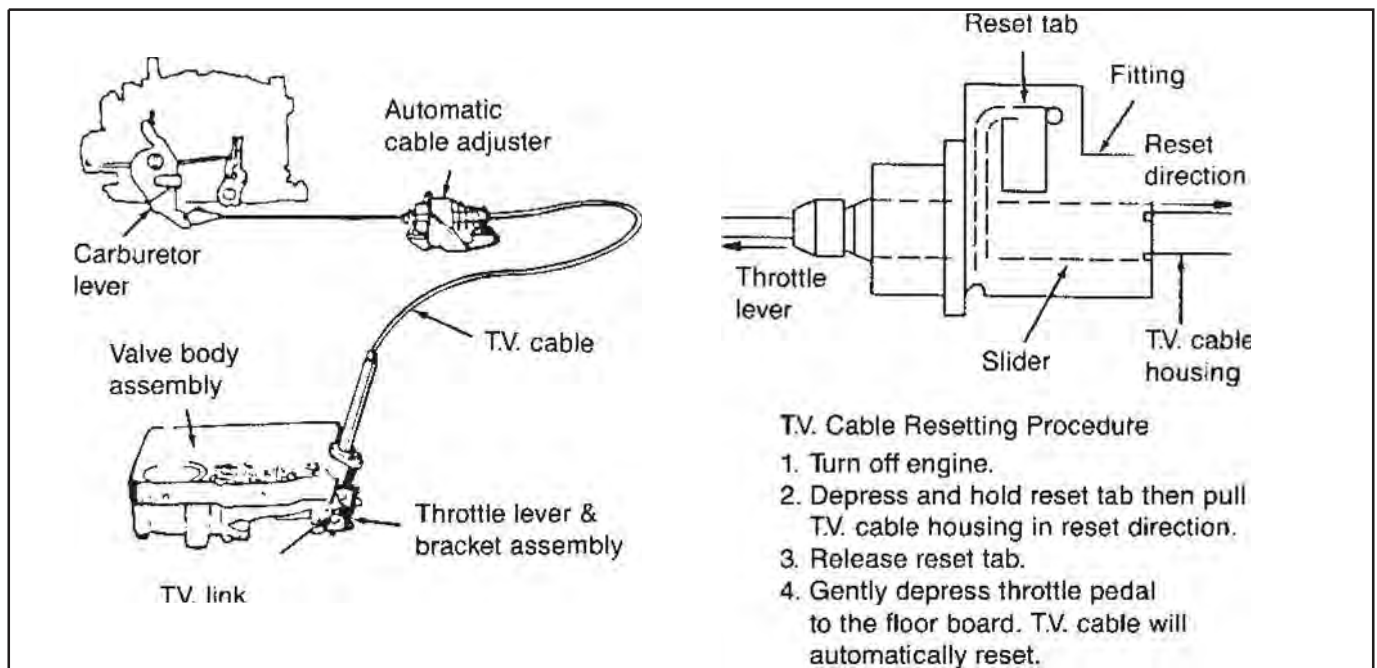

Figure 13
- 2. Check TV Cable adjustment (**See Fig. 13**).